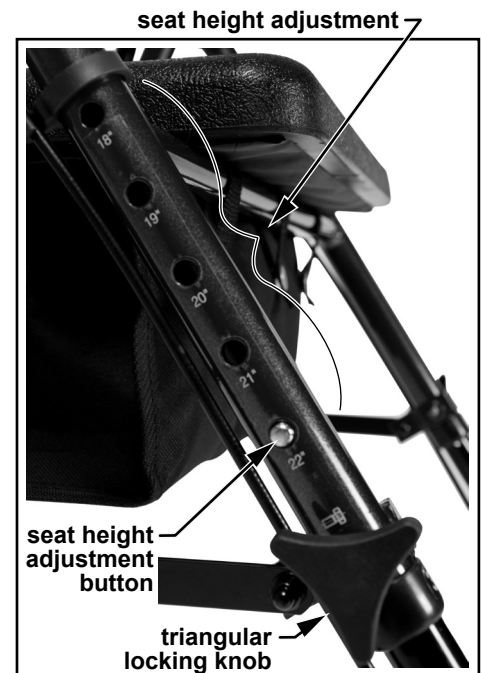

fig. 3
4. Install triangular locking knobs to secure all legs: Insert knob into hole as shown in fig. 3 and turn clockwise until tight.